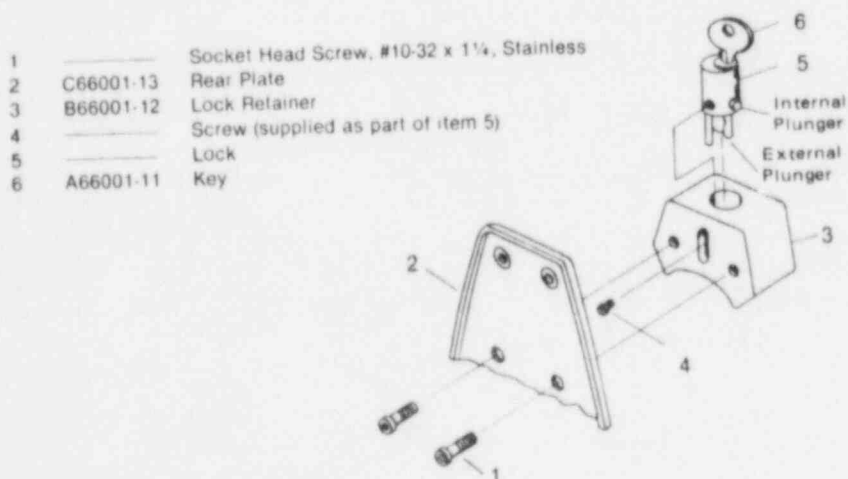

Figure 1B - Lock Assembly—Exploded View
- 7) To disassemble the lock assembly, refer to Figure 1B for order of removal. Remove the lock from the lock retainer by unscrewing the screw and turning the key about 90 degrees.